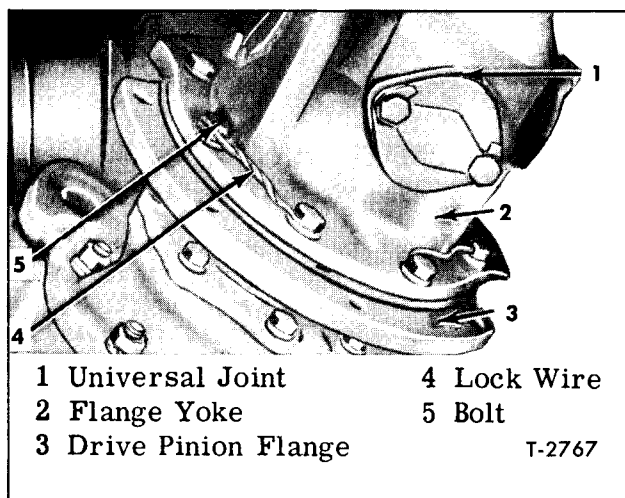

Figure 2—Propeller Shaft Installation at Rear Axle
1. Remove lock wire, nuts, lock washers, and bolts attaching propeller shaft flange yoke to drive pinion companion flange (fig. 2).